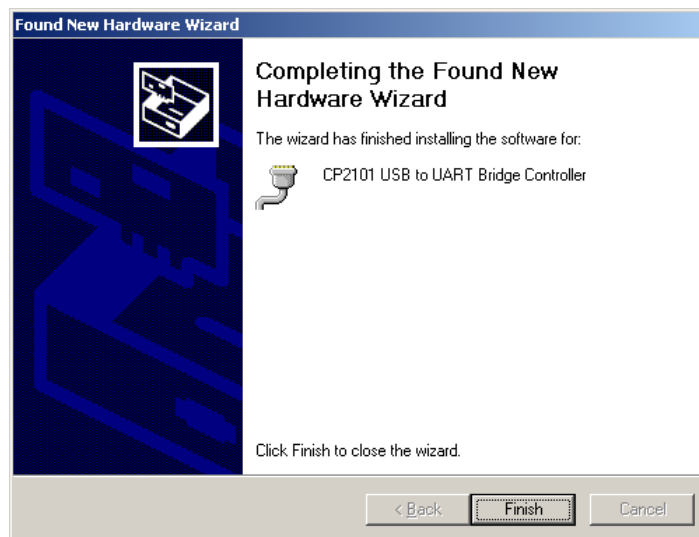

Figure 15: CP2101 USB Driver Installation Complete
7. The remaining drivers will automatically be installed. Dismiss any of the *Windows Logo Testing* dialogs by pressing the ***Continue Anyway*** button. Once the drivers have been successfully installed Figure 15 will be displayed. Press the ***Finish*** button to dismiss the dialog box.